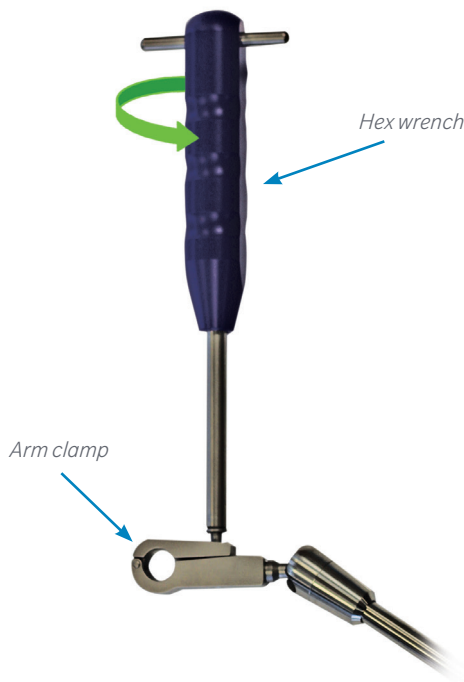

Figure 6
- Using the hex wrench, unscrew the clamp of each articulating arm (Figure 6).